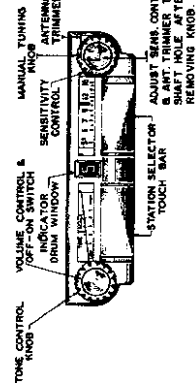

Fig. 2. Front Panel View
1. Press station selector touch bar (Fig. 2) several times or until the letter "M" appears in indicator window.